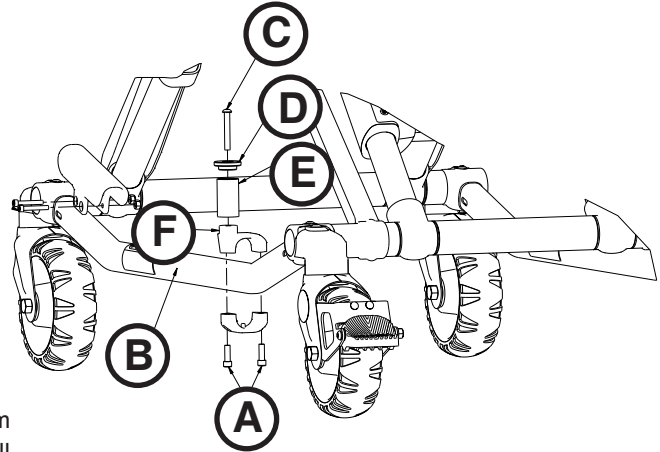

Figure 93
3. Using a T30 Torx driver, remove the two socket head cap screws (A) that secure the current cot retaining post to the base tube (B) (Figure 93). Discard the screws and cot retaining post.
4. Insert the button head cap screw (C) through the retaining post cap (D) and post tube (E), and then into the top pin bracket (F) (Figure 93).
5. Using a 5/32" hex wrench, tighten the button head cap screw (C) completely to secure the retaining post cap (D) and post tube (E) to the top pin bracket (F) (Figure 93). Using a torque wrench, torque the screw to 100-140 in-lb.